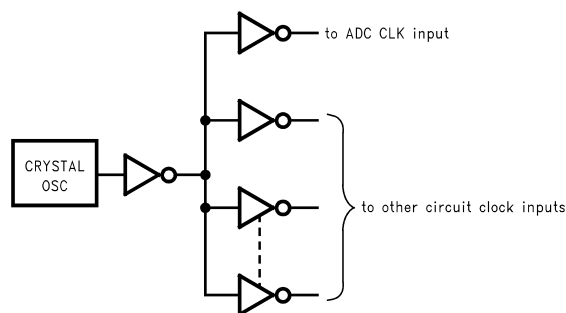

**Figure 13. Example of a suitable layout.**
**Figure 13** gives an example of a suitable layout. All analog circuitry (input amplifiers, filters, reference components, etc.) should be placed on or over the analog ground plane. All digital circuitry and I/O lines should be placed over the digital ground plane.